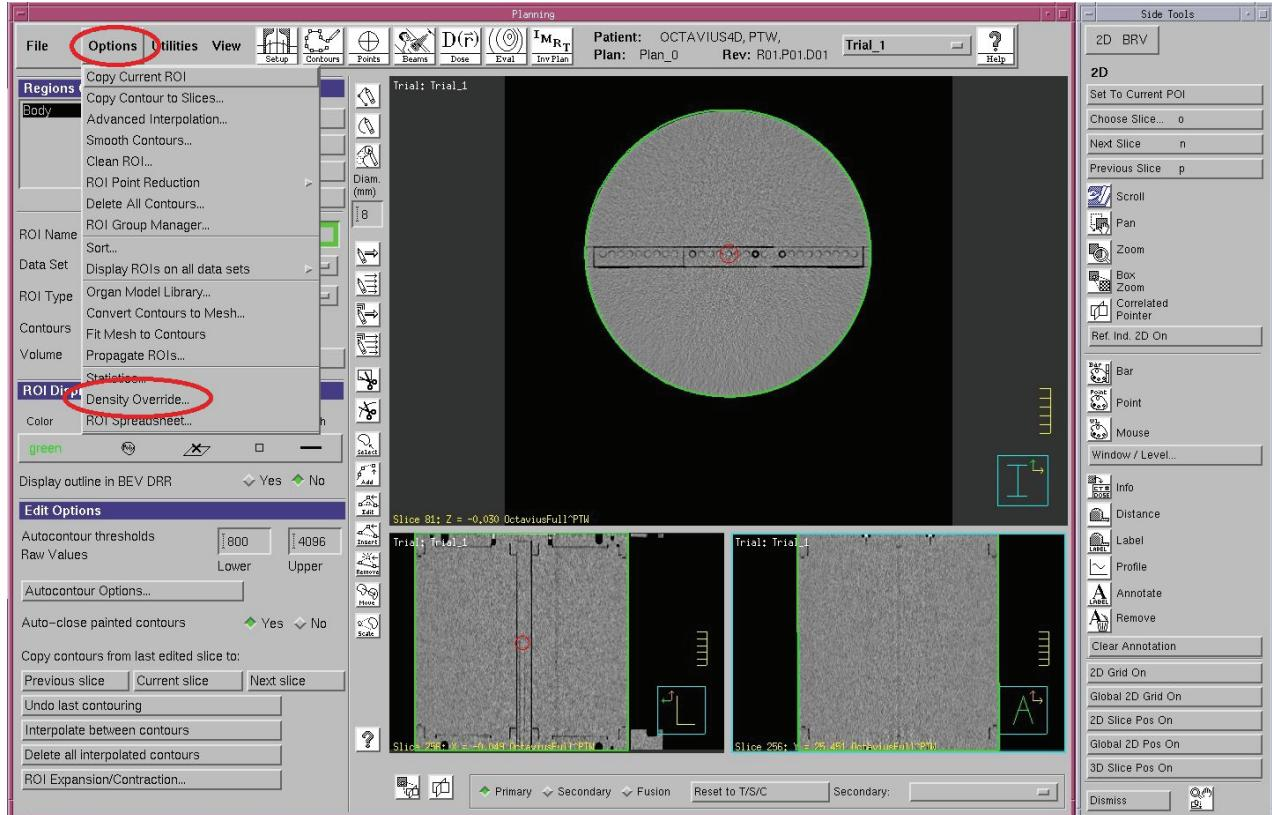

Fig. 2.10 Density override
7. From the Options menu, select the Density Override option (Figure 2.10).